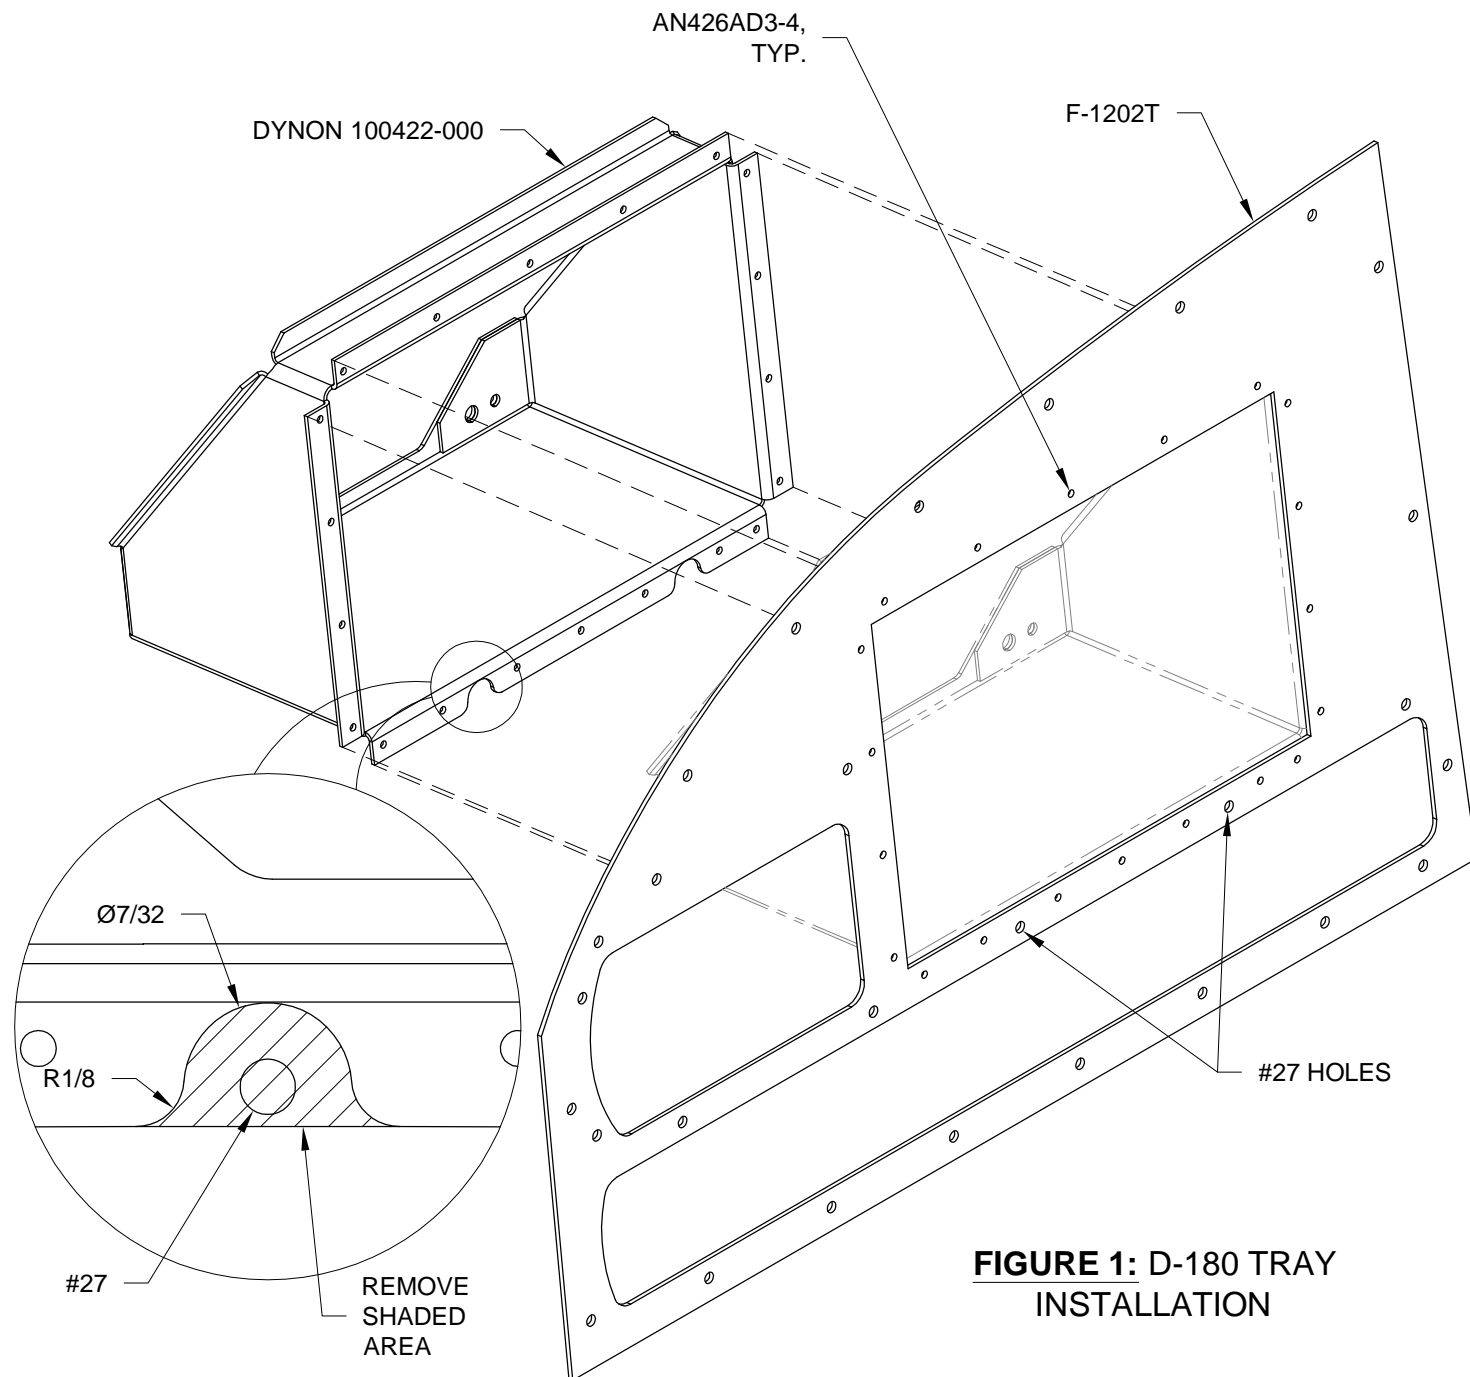

FIGURE 1: D-180 TRAY INSTALLATION
Step 2: Remove and deburr the Dynon 100422-000 D-100 Series Mounting Tray. Machine countersink the #40 holes surrounding the D-180 cutout in the F-1202T Inst Panel Left D-180 for the head of the rivets that will attach the tray. See call-outs in Figure 1.
Step 3: Remove the shaded area around the two #27 holes drilled into the bottom flange of the Dynon D-180 Tray in Step 1. See the detail view in Figure 1.
Step 4: Rivet the Dynon 100422-000 D-100 Series Mounting Tray to the F-1202T Inst Panel Left D-180 per the callouts in Figure 1.